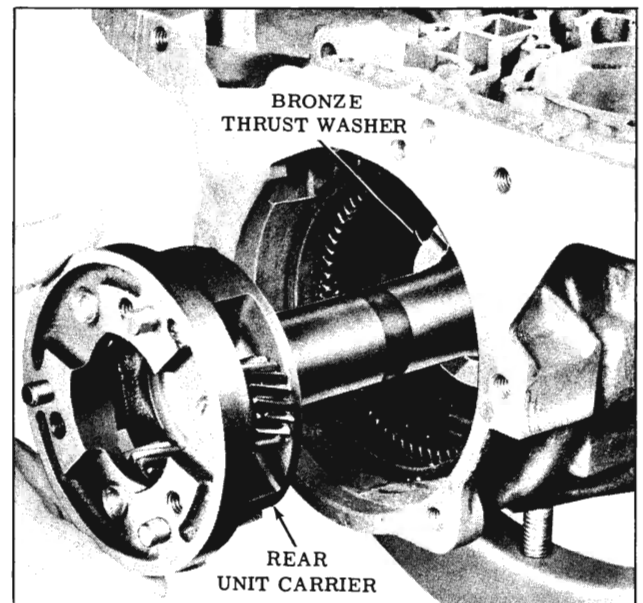

Fig. 3-247 Removing Rear Unit Carrier
48. Remove the rear unit carrier assembly and internal gear bronze thrust washer from rear of transmission. (Fig. 3-247)